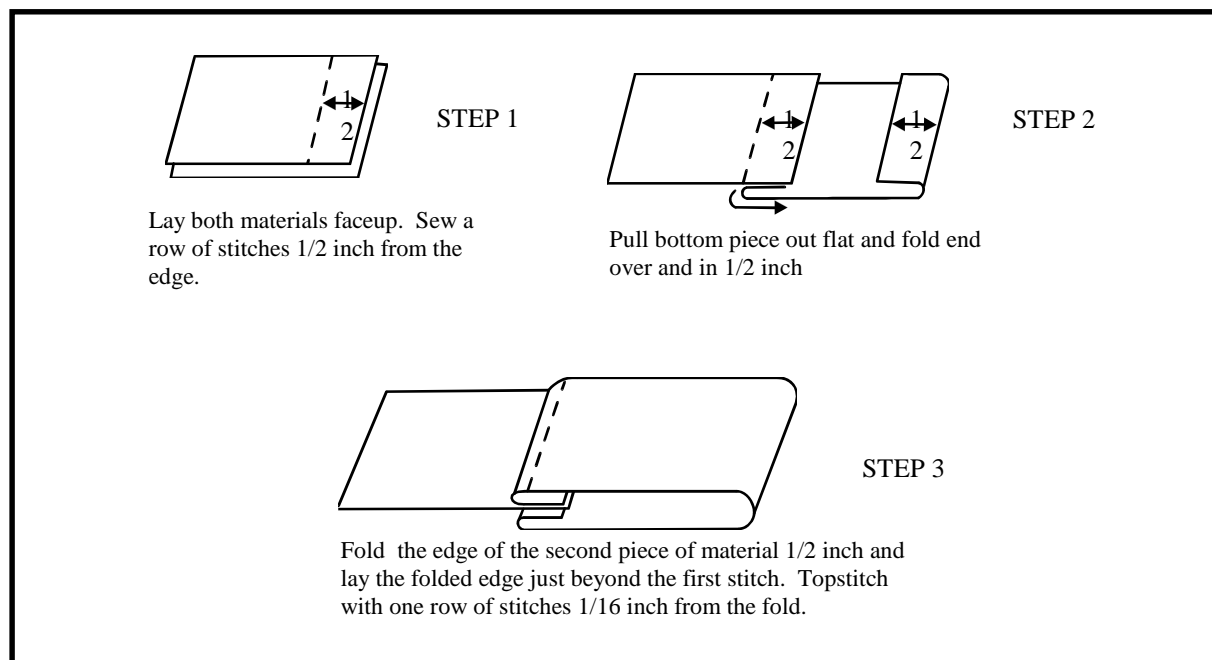

Figure 3-13. Seam type 5
f. Seam type 5. Seam type 5 (Figure 3-13) is an overlapped and topstitched seam. It is used to attach collars and cuffs to shirts. To make seam type 5--
- (1) Cut an 8- by 8-inch piece of material into two pieces 4 inches by 8 inches.
- (2) Place both pieces of the material on the table face up, and squarely over each other.
- (3) Mark a line on the top piece of the material on the right side of material 1/2 inch from edge (8-inch length).
- (4) Sew both pieces of material together with a simple seam, following the markings made 1/2-inch from the edge. Tack the stitch lines at both ends with a 1-inch tack (no less than 7/8-inch or no more than 1 1/8 inches).
- (5) Fold the bottom piece of material to the right, 1/2-inch seams up and also folded to the right.
- (6) Mark the edge of right material 1/2 inch from the edge (face side).
- (7) Fold the edge of the material on the 1/2-inch markings. Fold material over so that the folded 1/2-inch edge overlaps the simple seam 1/8 inch.
- (8) Sew a row of stitches 1/16 inch from the folded edge. Make certain to tack both ends of the seam (1 inch tack). No less than 7/8 inch or no more than 1 1/8 inches.
- (9) Press the seam area flat with an iron.